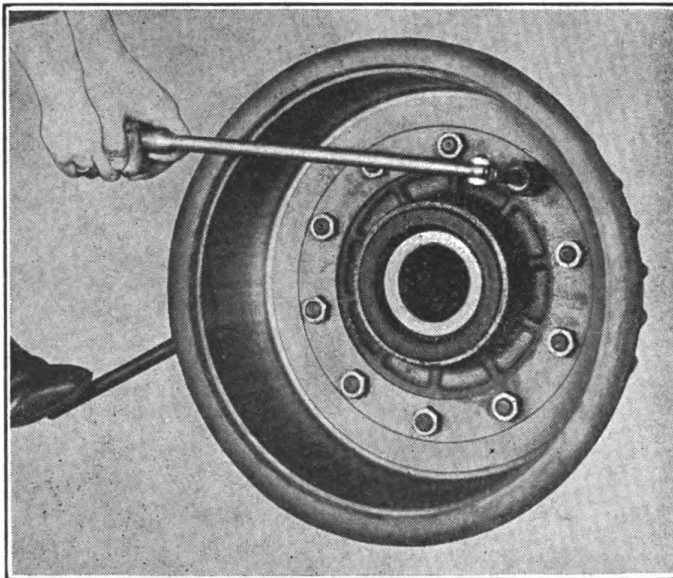

FIGURE 31. DRUM—REMOVAL.
(1) Remove wheel and hub assembly.
(2) Brake drums are secured to hub flange by six bolts. Remove inner and outer tire and wheel assembly.
(3) Remove the six bolts, nuts and lockwashers and lift drum off hub pilot (Fig. 31).